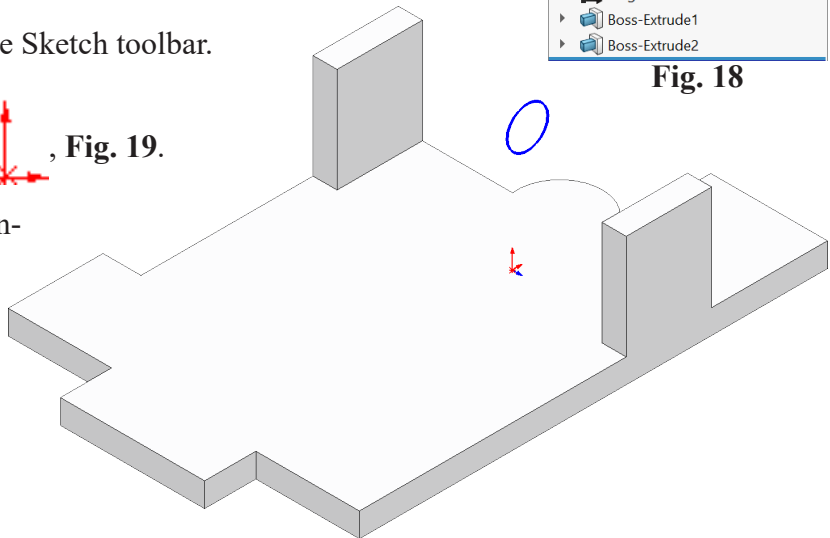
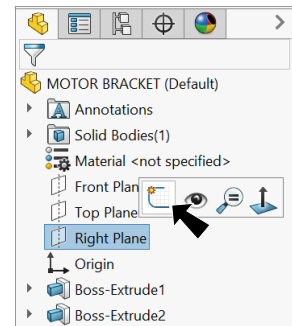

Fig. 19
Fig. 18
Step 1. Click **Right Plane**  in the Feature Manager and click **Sketch**  on the context toolbar, **Fig. 18**.
Step 2. Click **Circle**  (S) on the Sketch toolbar.
Step 3. Sketch circle above Origin , **Fig. 19**.